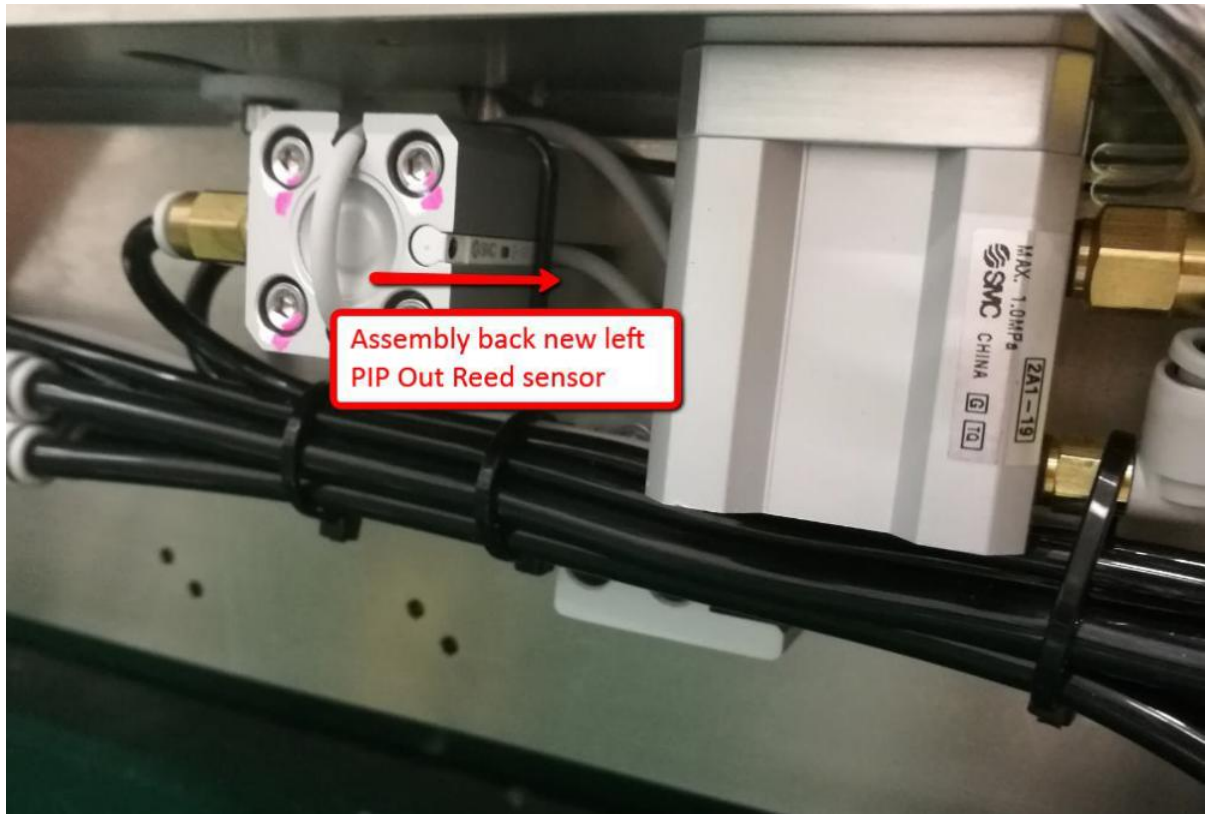

Figure 19 Left PIP Out Reed Sensor Assembly
1. Assemble Left PIP Out Reed Sensor to Left PIP Cylinder as shown in Figure 19 below. Hand tight Reed Sensor Screw Only